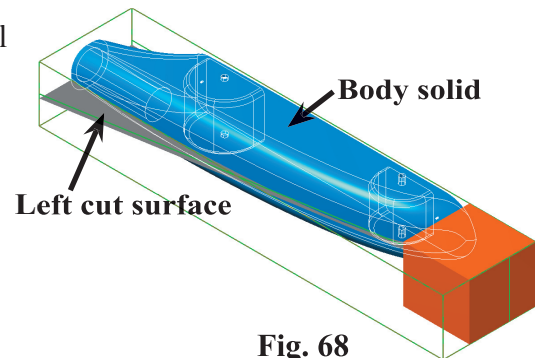

Fig. 68
Step 5. Click the **left cut surface**, Fig. 68.
Step 7. Click the body solid, Fig. 68. The solid edges will highlight when selected.